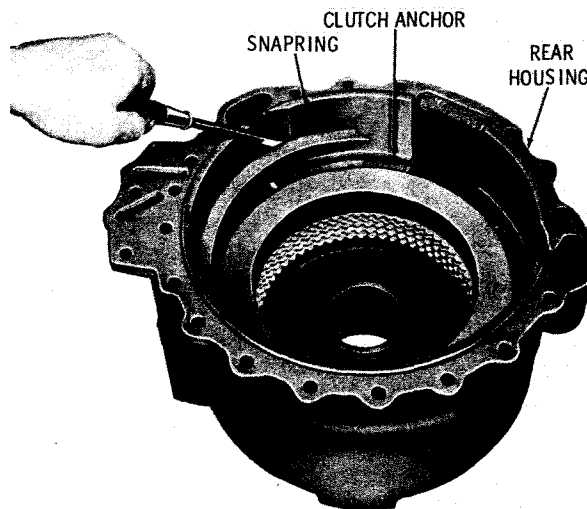

Fig. 7-44. Installing clutch anchor snapping (TRT-1)
(4) Install the heavy internal snapping which retains the clutch anchor (fig. 7-44). Note the position of the ends of the snapping in relation to the two slightly extended pins in the anchor.
(5) If bearing 6 (foldout 16,A) was removed from shaft 5, install the bearing and